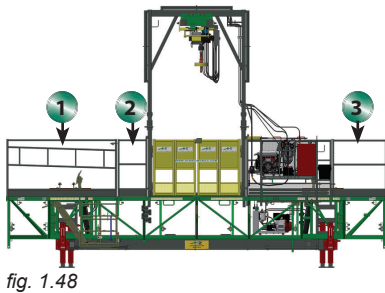

fig. 1.48
- 2- Install the 84" (213 cm) door support guardrail ("1" in fig. 1.48) at the left end of the motorized unit. Secure the guardrail by tightening each pocket bolt to a torque of 30 lb-ft (41 N-m).
- 3- Lift and hold the clevis pin on the welded tab on the support frame (fig. 1.50). Install the 22 1/4" (57 cm) hoist guardrail ("2" in fig. 1.48) between the door guardrail and the hoist support structure. Make sure that the vertical tube of the guardrail is snug under the welded tab on the support frame. To secure the guardrail, release the clevis pin and make sure it falls back through the hole in the welded tab and inside the top vertical tube of the guardrail (fig. 1.50). Tighten the pocket bolt at the other end of the guardrail (fig. 1.51) to a torque of 30 lb-ft (41 N-m).